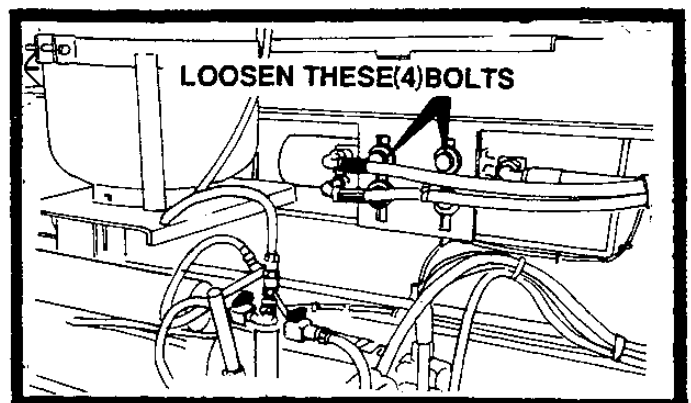

FIGURE 36
1. The auger chains should be just snug, not loose. To tighten loosen bolts in slots provided for takeup. See figure 36.